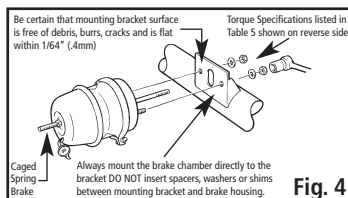
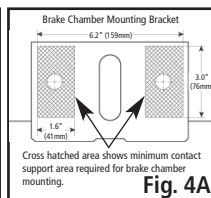

Fig. 4
Fig. 4A
When mounting a spring brake to a horizontal bracket, as shown in Fig. 4, the bracket must meet the minimum contact area. (Fig. 4A)
Always mount brake chamber directly to bracket. DO NOT insert spacers, washers or shims between mounting bracket and brake housing. (Fig. 4) Consult the bracket manufacturer for your application to determine if a reinforcement plate is necessary.
**Step 2.** Mounting brackets must be inspected to assure that bracket surface is free from debris, burrs, cracks, weld spatter and is flat within 1/64" (.4mm). (Fig. 4)
**Step 3.** Attach spring brake directly to mounting bracket on axle. Fasten with mounting hardware (Fig. 4). Torque to specifications listed in Table B on reverse side.